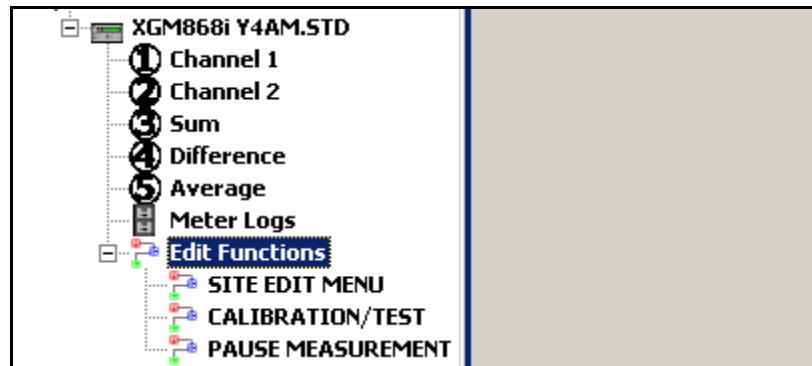

Figure 9: Menus in the *Edit Functions* Option
4. Expand the *Edit Functions* option. A window now appears similar to that shown in *Figure 9* below.